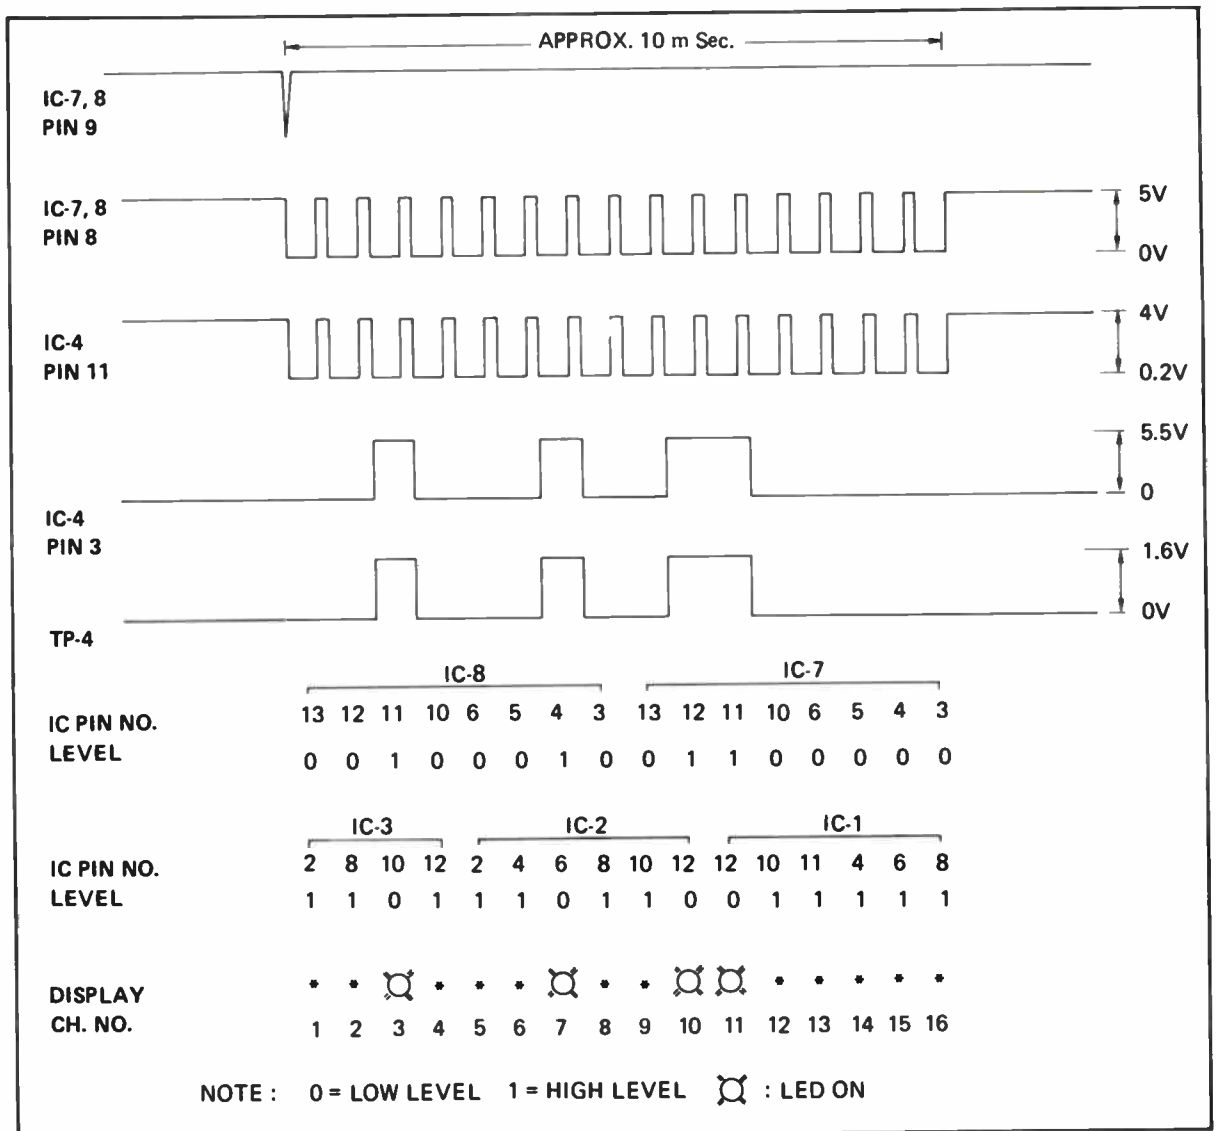

FIGURE 15.
2. After setting the Digit switches, press the ENTER button. The code is then memorized and displayed by the channel/program code indicators instantly. See Figure 15 for the timing diagram. The displays shown in the timing diagram can be seen whenever the ENTER button is pressed.